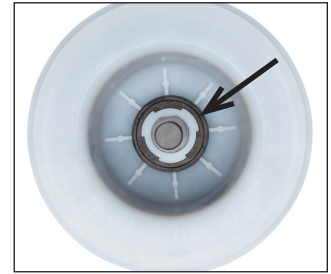

figure 22
1. Place barrier (item 8) on a table with open side facing up.
2. Remove rear sealing ring by cutting it with a #18 straight edge X-Acto knife or similar blade & gently cut through the ring. Once cut, pry open and remove the ring from the barrier inner shaft boss. See figure 22.